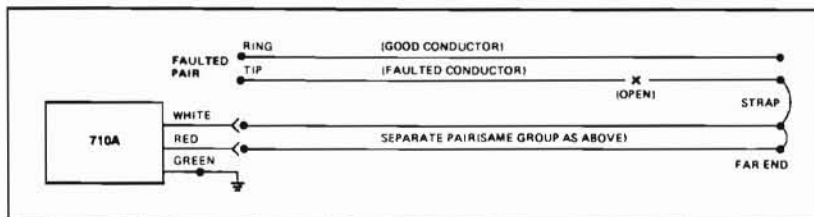

Figure 4-1.
- 1) Find a separate pair, in the same group if possible and strap the far end of the pair to the faulted conductor under test as shown in Figure 4-1.